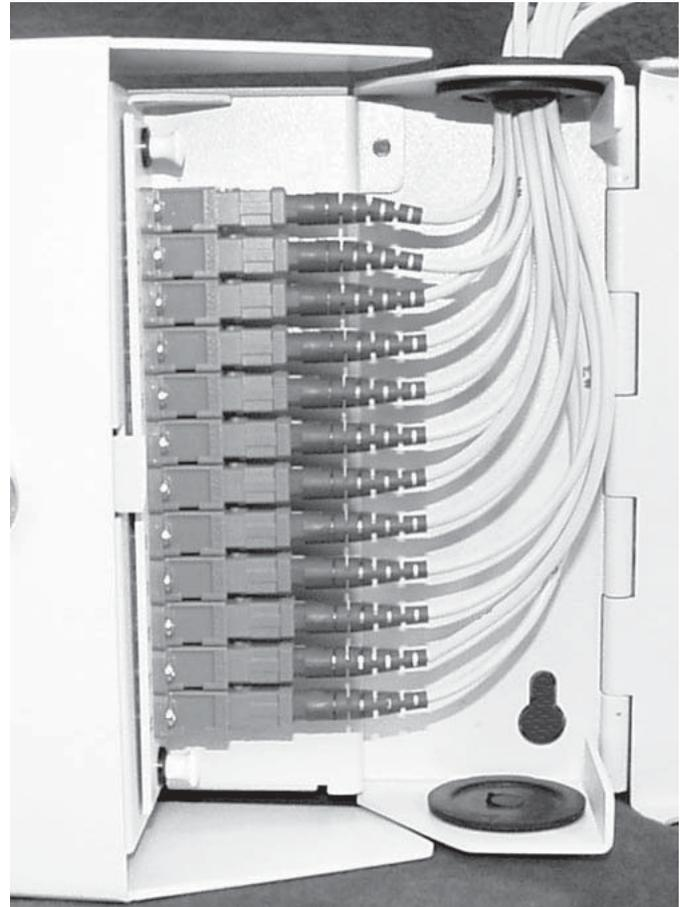

Figure 11 — Route Jumpers
9.3 Install jumpers through the prepared grommet on the subscriber side of the unit as shown in Figure 11.